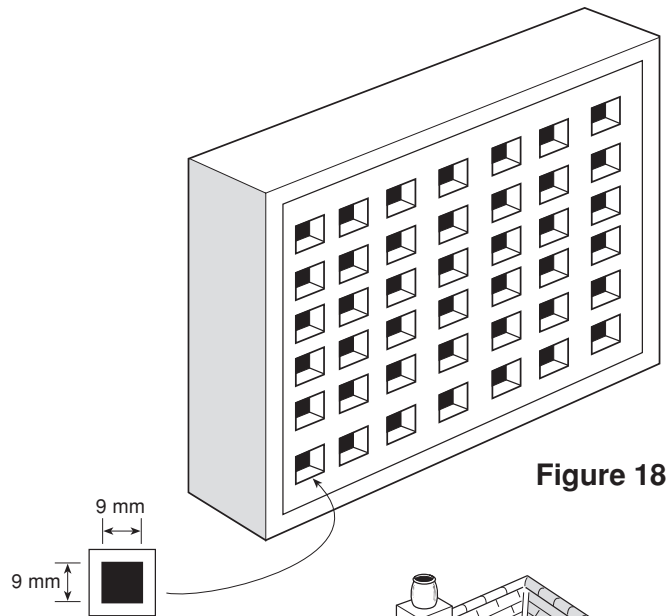

Figure 18
- (47) With reference to the air grille illustrated in Figure 18, calculate its effective free air size. (Page 225.)